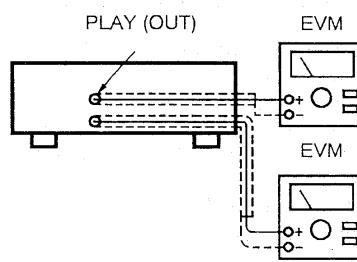

Fig. 5
- Connect the measuring instruments as shown in Fig. 5.